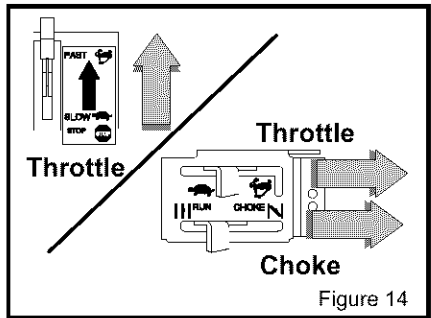

Figure 14
2. Then, move the **throttle control lever** to the STOP position (Figure 14).
5. Move the **throttle control lever** (if equipped) to the FAST position (Figure 14).
6. Move the **choke control lever** to the CHOKE position (Figure 14).